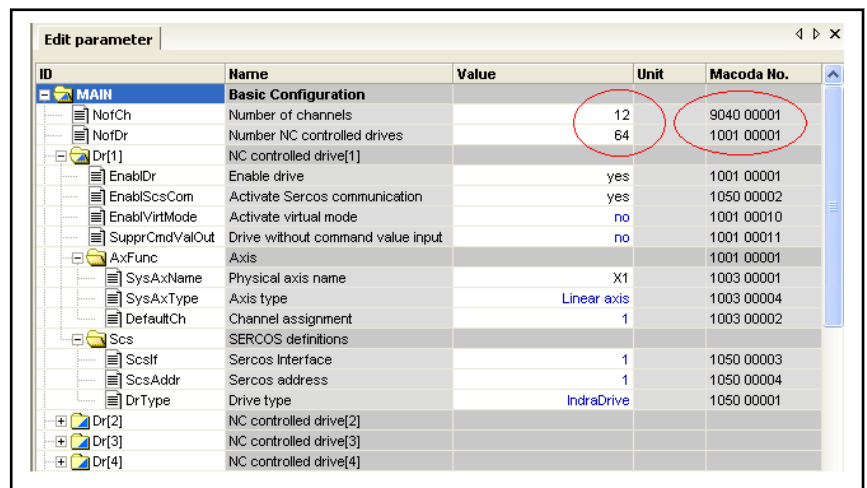

Fig. 7-202: Setting the number of channels and axes
- To set the number of channels/axes, modify the entry accordingly (see fig. 7-202 "Setting the number of channels and axes" on page 377). The channels and axes are automatically created by the system.